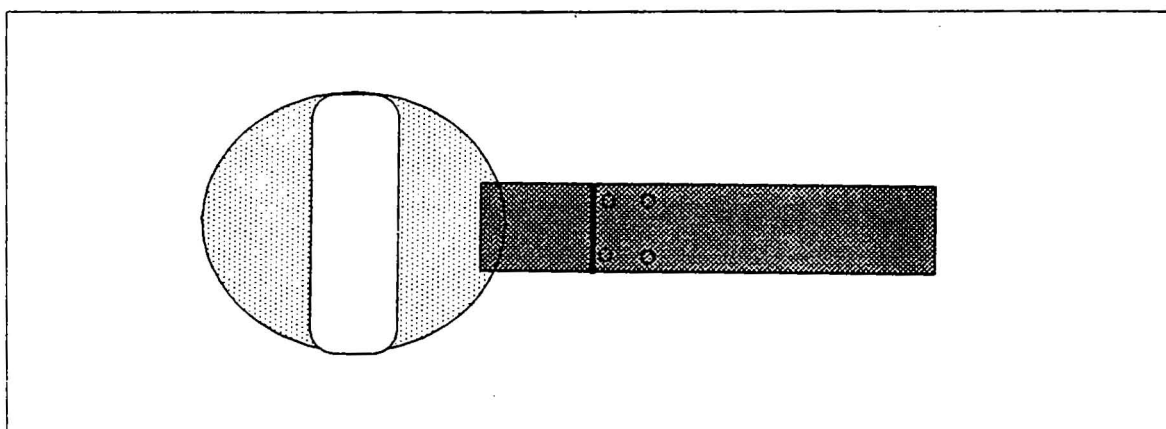

Fig. 5-4 White Striped Wafer Placement
2. Press [START] and place the White Striped wafer on the puck with the strip perpendicular to the puck (See Fig. 5-4).